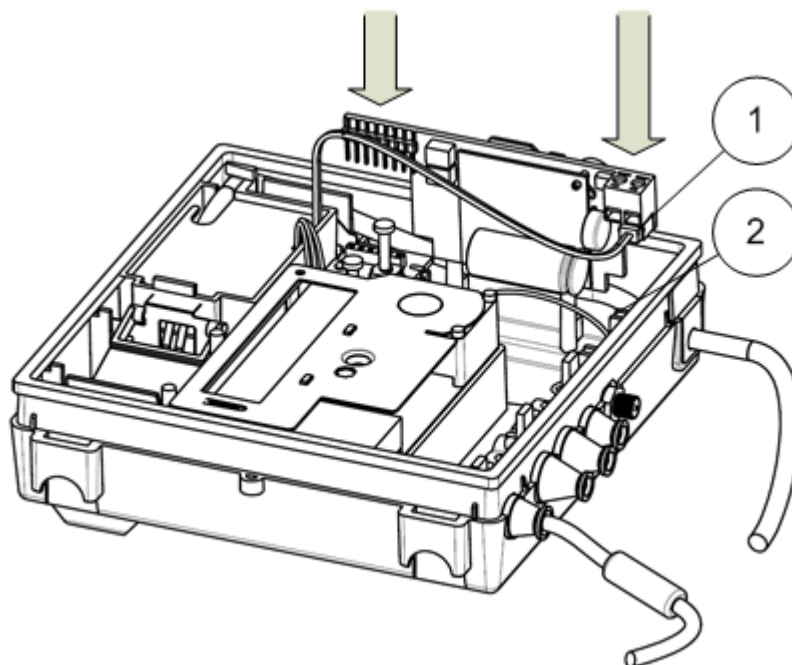

Figure 5: Mount the CMi2110
The CMi2110 is mounted in the module slot of the L+G UH50, as illustrated by Figure 5. Connect the power connector (1) from the power supply to the CMi2110 and carefully press the MCM into the slide (2).